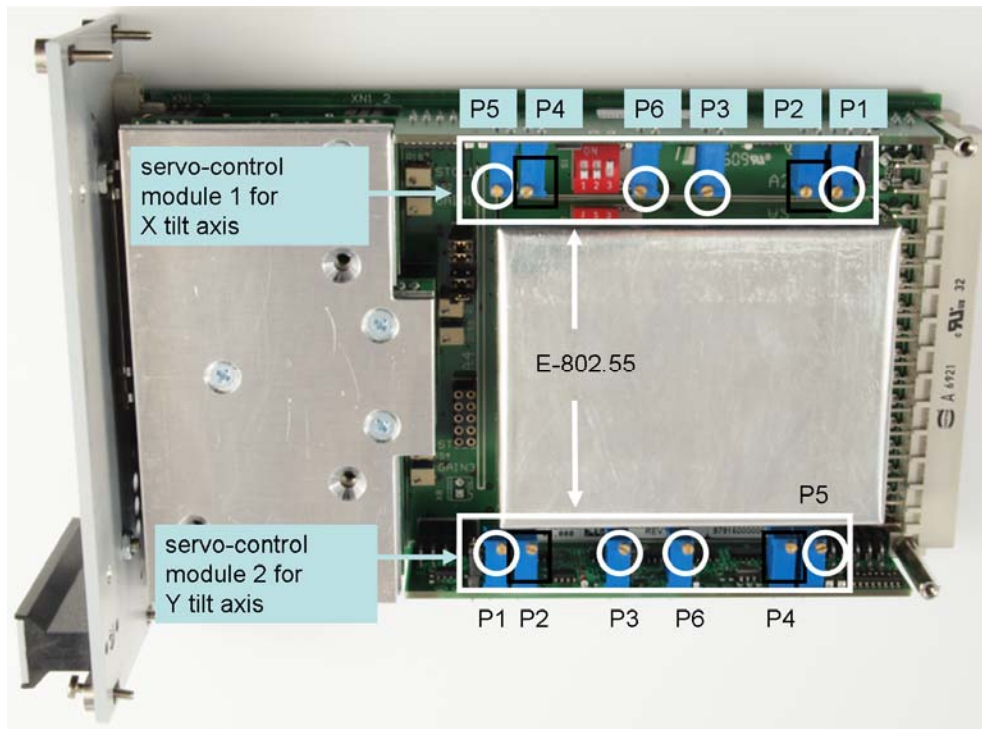

Figure 8: Assignment of potentiometers to E-802.55 servo control modules
- 3 Tune the corresponding potentiometers, see Figure 8.